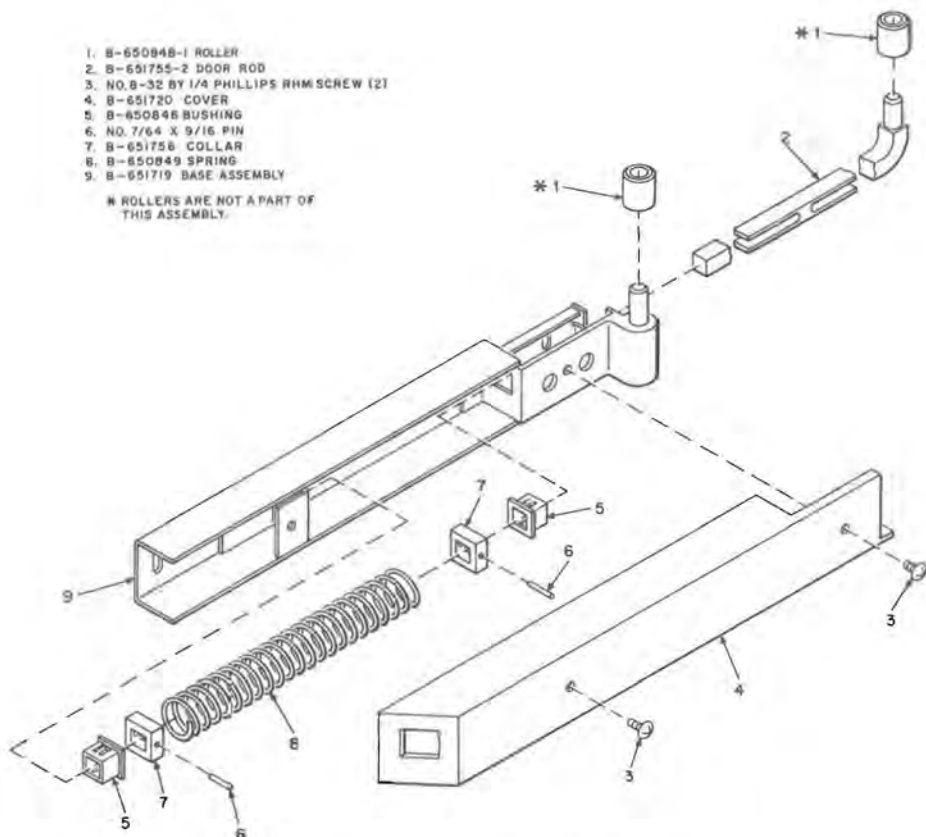
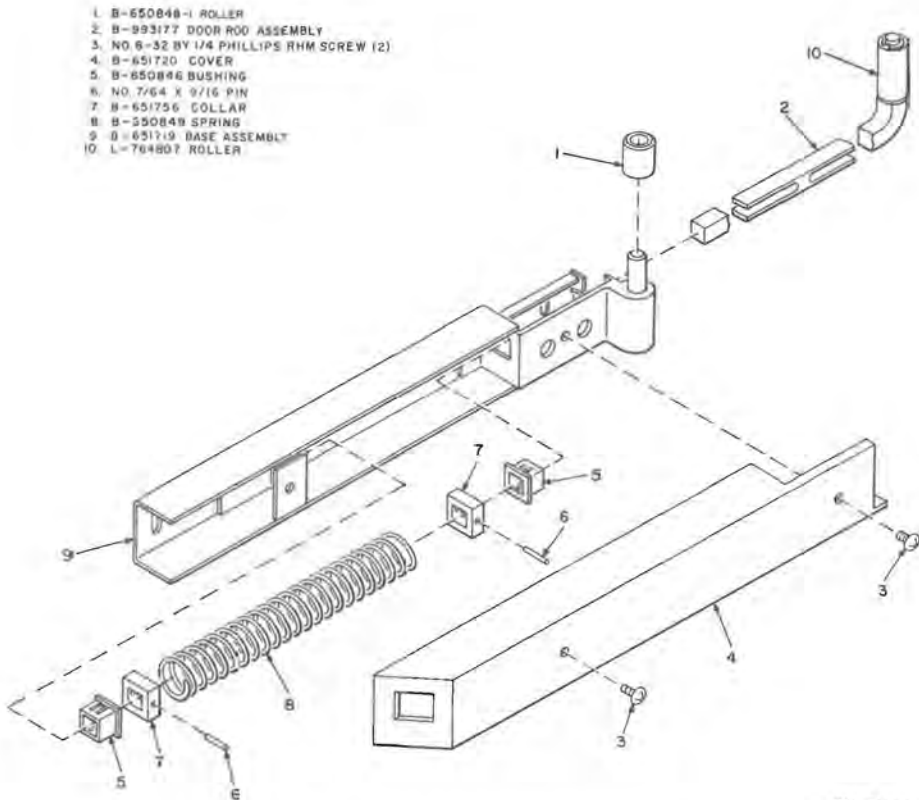

Fig. 25—B-651721-2 Door Guide Assembly
Fig. 26—B-993172-2 Door Guide Assembly
4.28 The KS-19580 booth will have either a B-651721-2 short-roller door guide assembly (Fig. 25) or a B-993172-2 long-roller door guide assembly (Fig. 26). The B-993172-2 door guide assembly requires a different ceiling, baffle, and a deeper track to accommodate the longer roller. If a problem exists with door guide rollers jumping out of the track, booths can be modified in the service center to accept the long-roller door guide.
- Remove two screws and B-651720 cover (Fig. 25 and 26.)